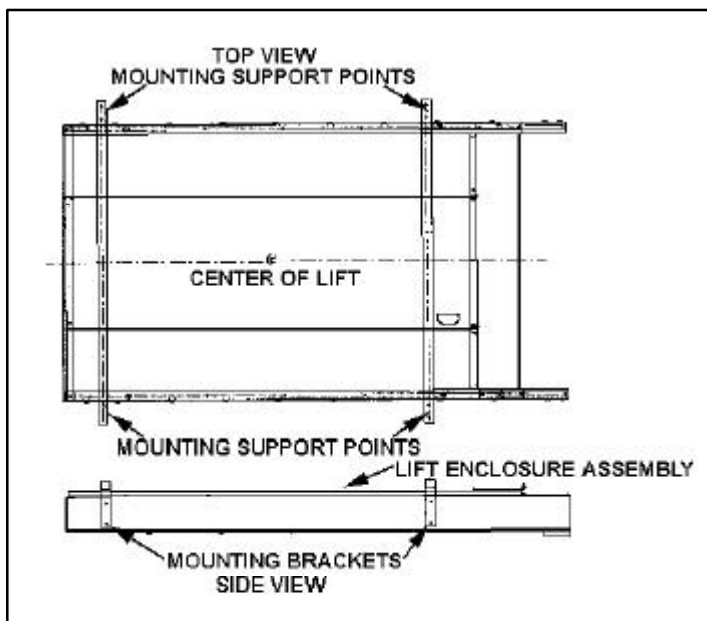

FIGURE 2-1: LIFT MOUNTING
- Refer to **Figure 2-1**. Regardless of vehicle type, mechanical support of the lift will be provided at four attachment points. Unless otherwise arranged through OEM applications engineering, the lift is shipped with two cross members that define four mounting support points.